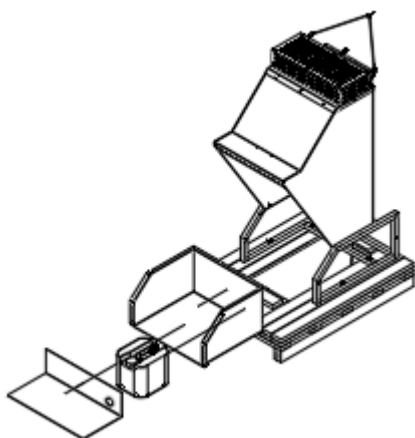
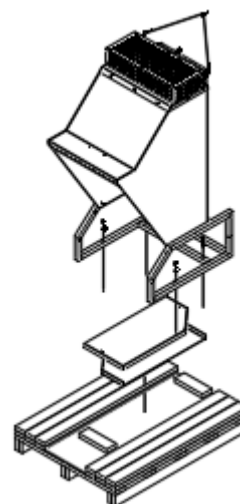

Figure 1.1
Figure 1.2
- Your unit may arrive enclosed in a wooden crate. The Hood is secured to a wooden platform by means of high-tensile strength  $\frac{1}{4}$ "-20 x 2" lag bolt. Remove back panel, ANSULEX® Fire Suppressant, 3.0 Gallon, and tray (Figure 1.1). Remove lag bolts from frame. Remove frame and side panels (Figure 1.2)